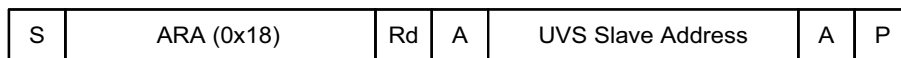

Fig. 10 - Command Format for Responds to an ARA
- (1) If the host implements the INT function, it performs a modified received byte operation to disengage VEML6070's acknowledge signal and acknowledge alert response address (ARA), 0x18 (Hex). A command format for responses to an ARA is shown in figure 10.